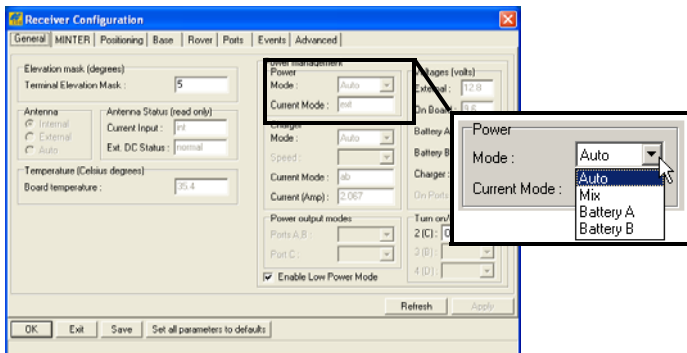

Figure 2-9. Select Power Mode
3. Select the *Power Mode* drop-down list to set the desired power source (Figure 2-9). *Current Mode* displays the current power source; if using the cradle, it will show “extbat.”